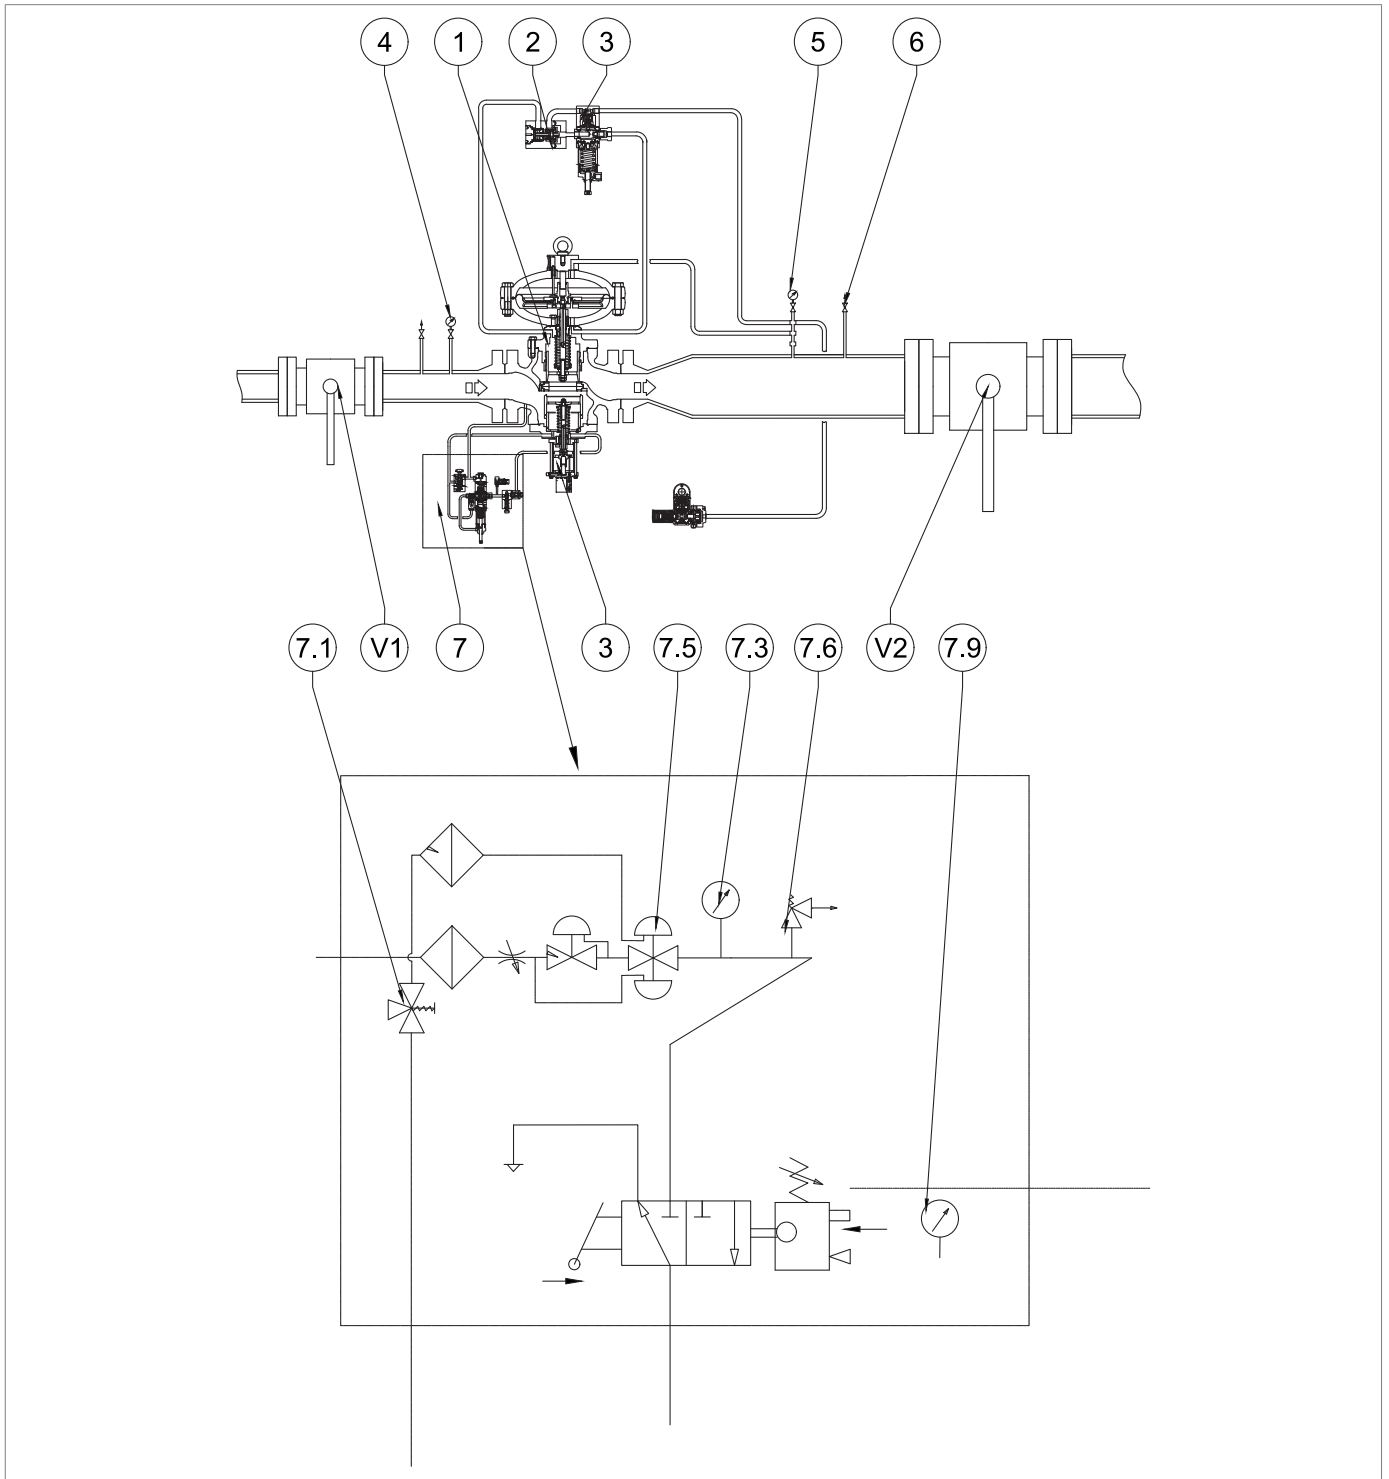

Fig. 8.36. LINE OFF 2.0 commissioning and calibration for the HB/97 built-in slam-shut valve
- to operate the slam shut valve in manual mode by pressing the release button (Pos. 10 - Figure 4.13.). Next, check that the pressure indicated by the pressure gauge installed on the LINE OFF 2.0 device (Pos. 7.3 - Figure 8.36.) is 0 bar, ensuring complete depressurisation of the line.
- Next, check that the pressure indicated by the pressure gauge installed on the LINE OFF 2.0 device (Pos. 7.3 - Figure 8.36.) is 0 bar, ensuring complete depressurisation of the line.